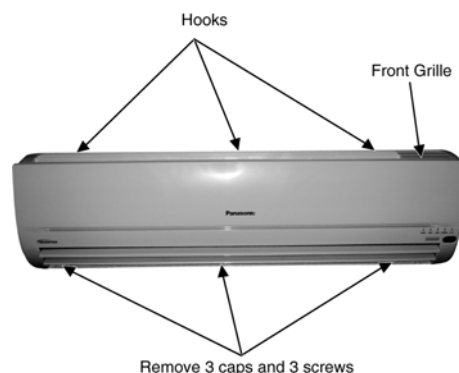

Fig. 1
- Lift to open the vertical vent gently. Remove the 2 caps and 2 screws at the bottom of discharge vent. (Fig. 1)
- Remove the Front Grille by releasing the 3 hooks at the top of the Front Grille. Hold both sides of the Front Grille and remove it by pulling up and towards you gently. (Fig. 1)
- Lift to open the vertical vent gently. Remove the 3 caps and 3 screws at the bottom of discharge vent. (Fig. 1)